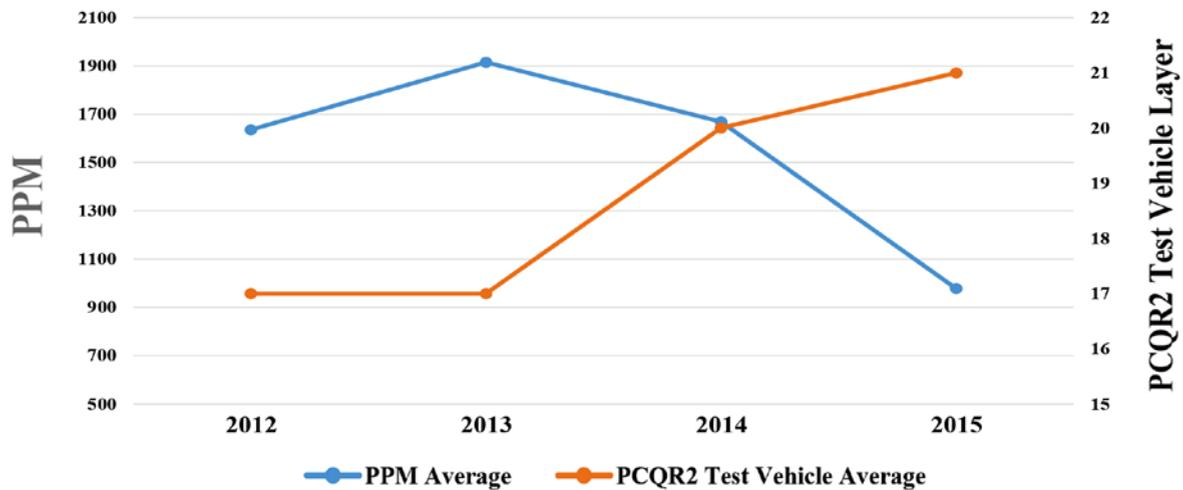

Figure 6: Quality improvement with PCQR.
- **Drives supplier quality.** Figure 6 shows PCB PPM reject trending down as the technical capability of our suppliers (represented by the average layer count of PCQR2 submissions) increases.